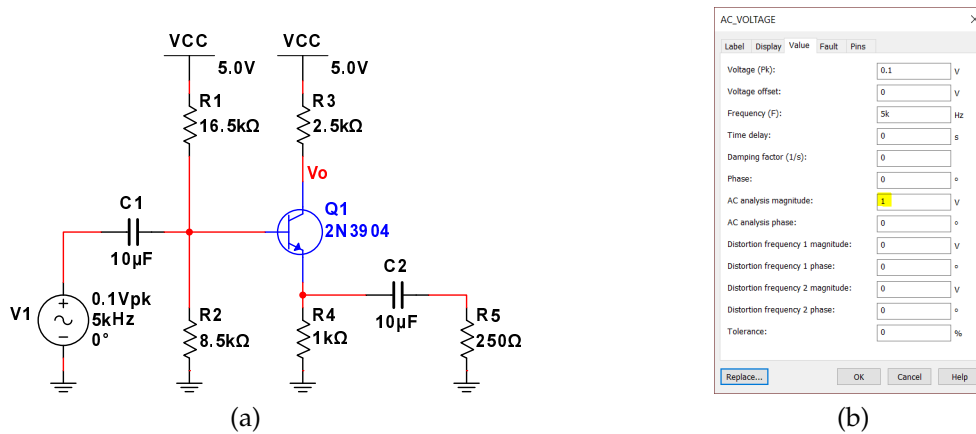

Figure 8: (a) Amplifier circuit for R_i simulation (b) Input voltage source properties
- Identify the label of the input voltage source: **V1** in Fig. 8(a)
- Make sure that the "AC analysis magnitude" of V1 is set to 1 as in Fig. 8(b)